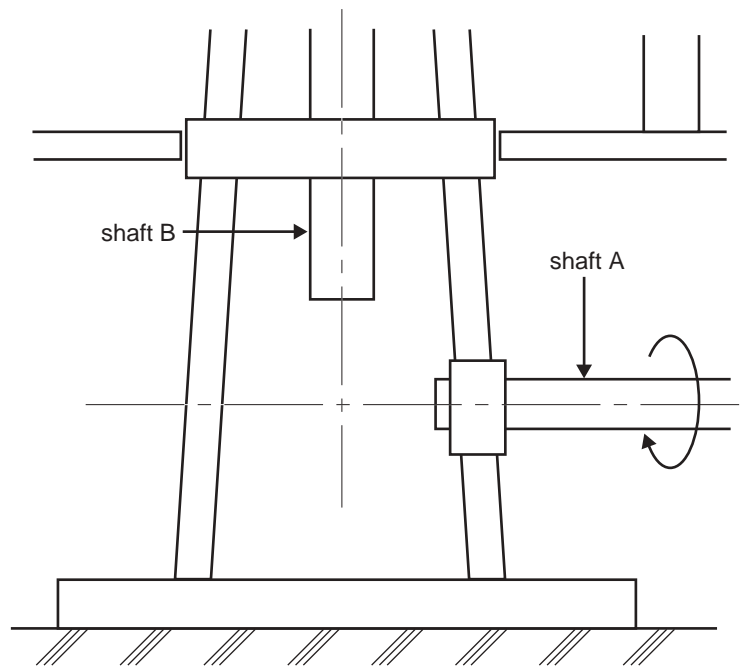

Figure 3
- e. i. On Figure 3 add a gear system that would enable shaft A to drive shaft B (place gear A on shaft A and gear B on shaft B).